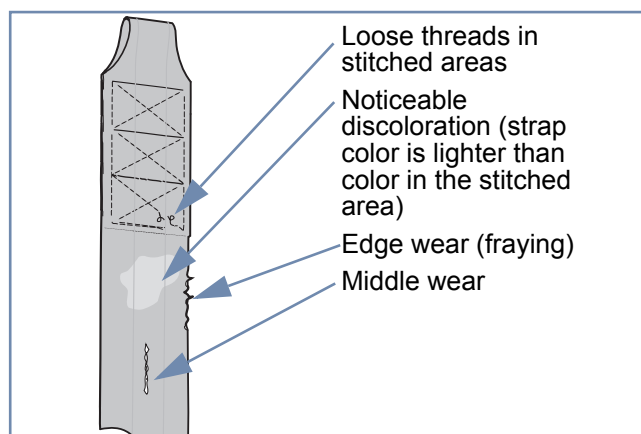

Figure 10
- Look for any signs of wear or discoloration as shown on Figure 10.